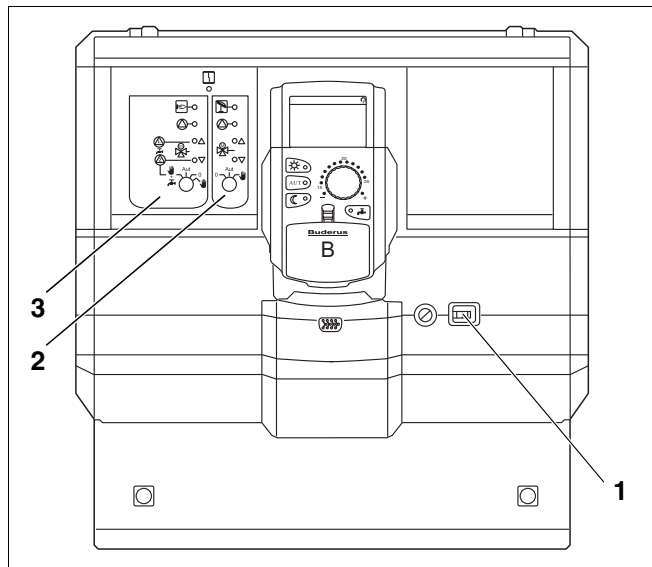

Fig. 25 Logamatic 4121
- Switch on the control unit via the ON/OFF switch (→ Fig. 25, [1]).
- Set heating circuit 1 (poss. + DHW) (→ Fig. 25, [3]) at selector switch  to manual  or .
- Set heating circuit (→ Fig. 25, [2]) at selector switch  to manual .